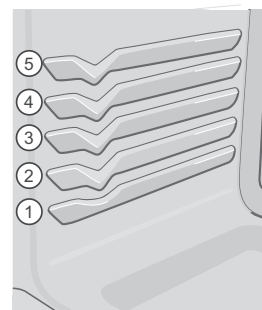
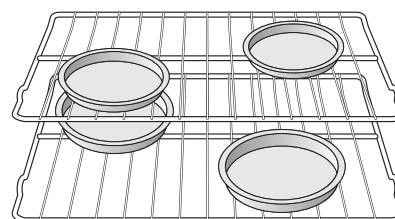

Figure 14: Rack positions
Figure 15: Pan spacing
- For best results when baking cakes using two oven racks, place bakeware on oven rack positions 1 (using a glide rack) and 4 (using a flat rack) (Figure 14) and place pans as shown in Figure 15.